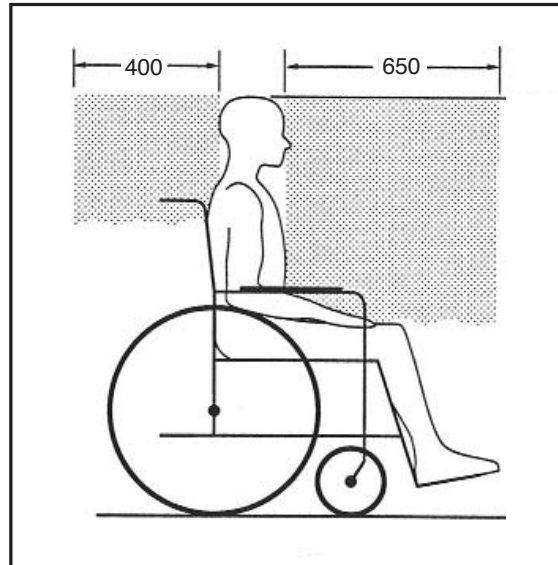

Fig. 1
6. **Adequate clear zones are required for occupants restrained by an upper- / lower-torso five-point harness. See Figs. 1 & 2.**
Position the wheelchair aboard the motor vehicle to ensure sufficient clear space in front of, and behind, the occupant. **(See Figs. 1 & 2)** If there are any hard or sharp objects or components near the wheelchair, such as components of lifts or fold-up seats, they must be covered with heavy-duty energy-absorbing padding to ensure the safety of the wheelchair occupant and other passengers.